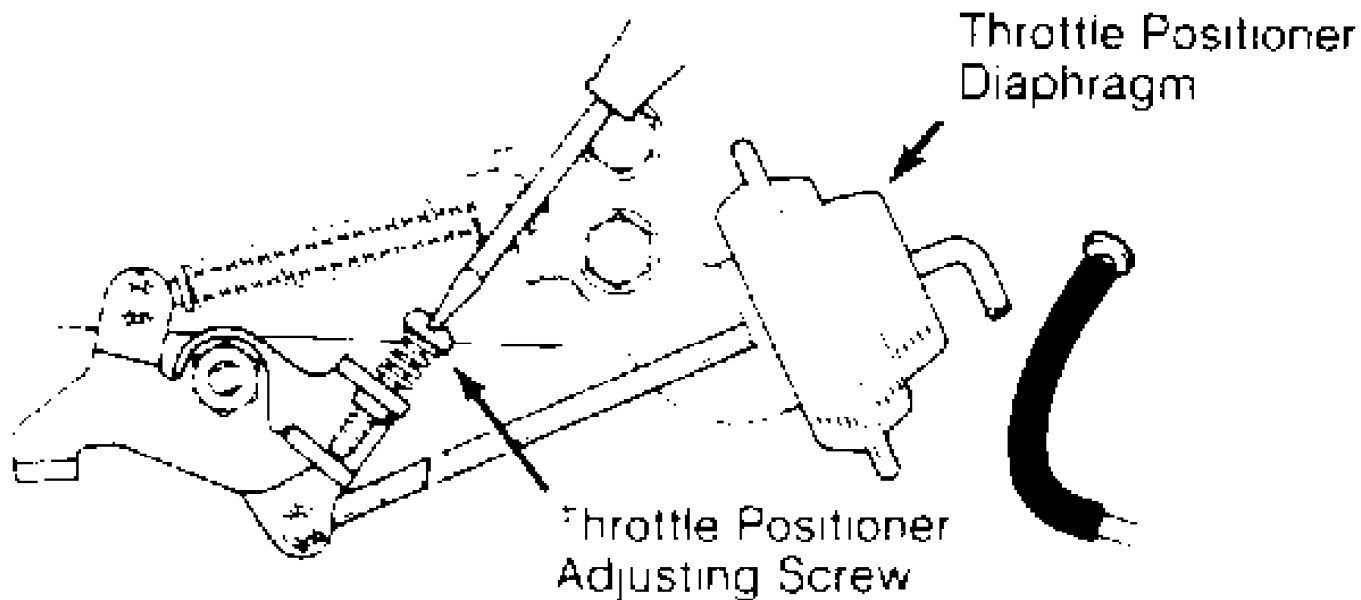

Fig. 22: Throttle Positioner Adjustment
2) On Corolla 4A-F engine and Tercel Wagon, disconnect and plug vacuum hose to throttle positioner diaphragm. See Fig. 22. Start engine and check engine speed. If necessary, turn throttle positioner screw.